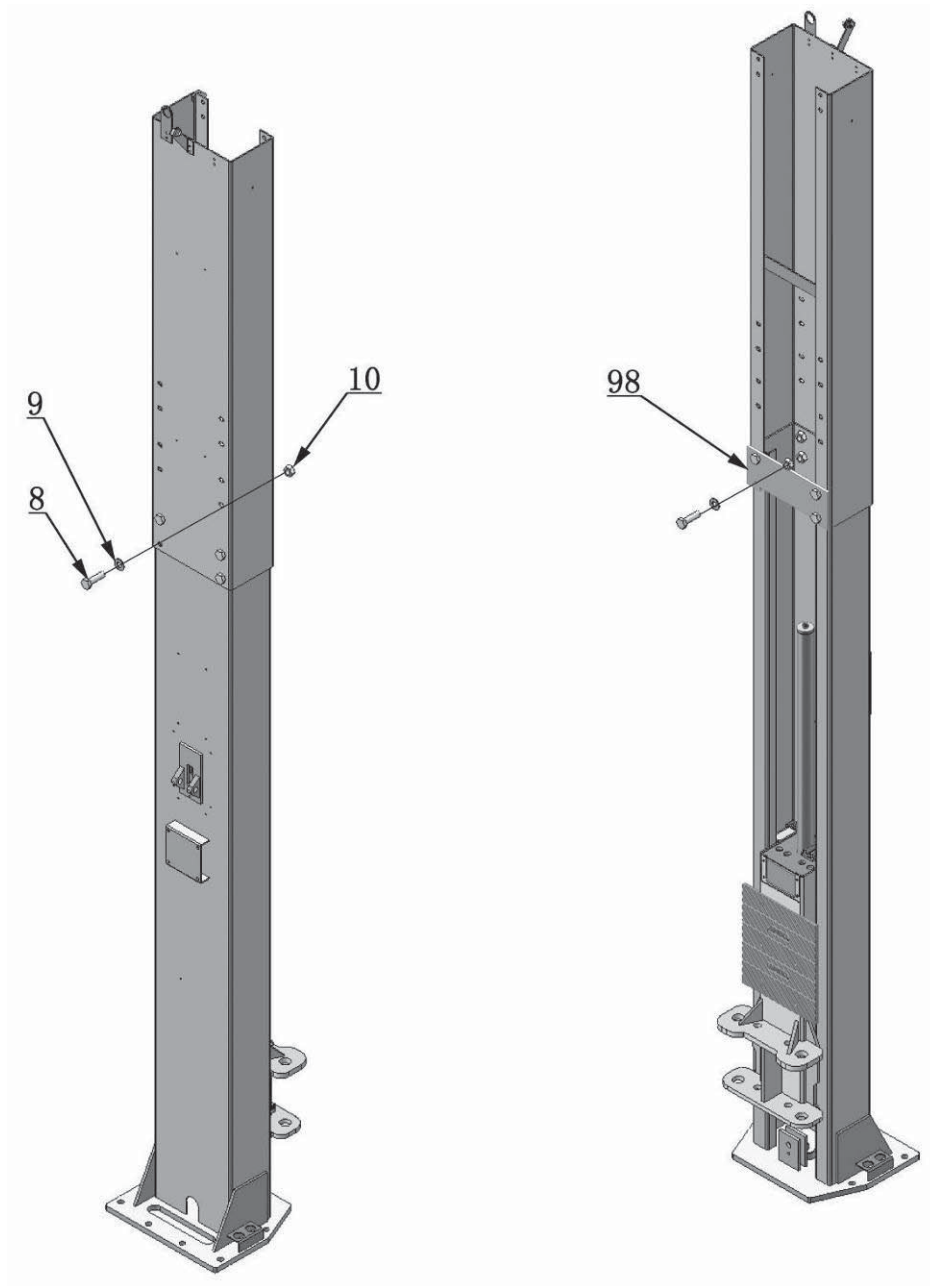

Fig. 17 High Setting
1. When the ceiling height is over 4500mm (177 1/8"), connect the outer columns to the lower holes (**See Fig. 17**).